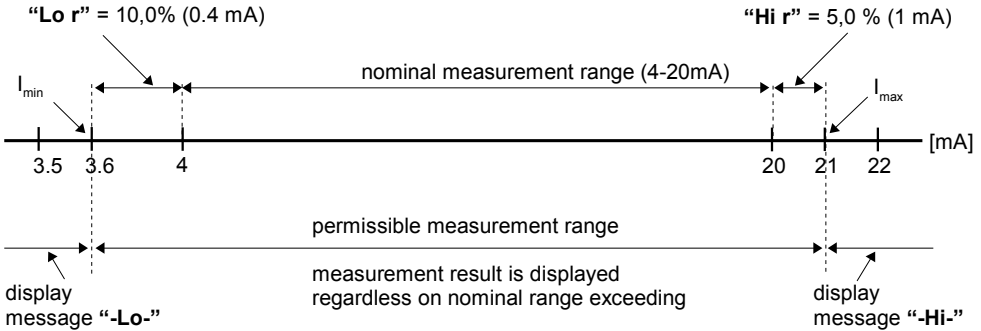

Figure 7.1 Example of definition of permissible range of input signal - "Lo r" and "Hi r" parameters
If two threshold mode is used, “modE” parameter defines state of the relay output when the input value occurs in a particular zone defined by **border values** of both **thresholds**. The relay can be turned on if the input value enters the **zone A** (“modE” = “in”) or **zone B** (“modE” = “out”) and turned off if it enters the second one (figure 7.1).
- these parameters define the expansion of nominal range in percent. They determine the permissible range of input signal (figure 7.1).